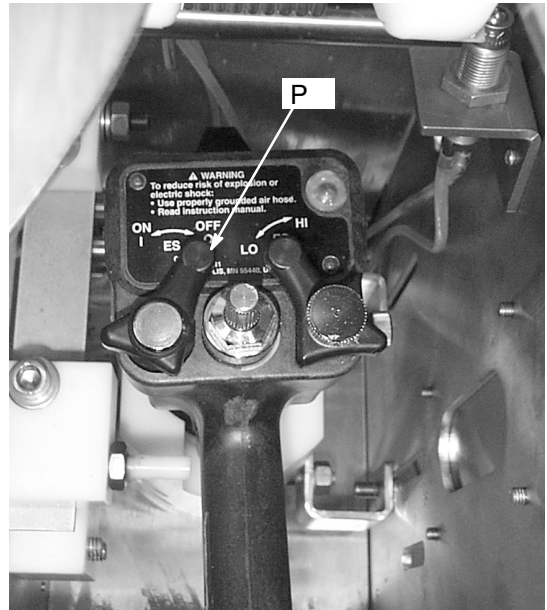

Fig. 19
- ____ 2. If using electrostatics, all operators are properly trained to safely operate an electrostatic spray system. Operators must always turn off the electrostatics (P) before placing the spray gun in the Gun Flush Box. See Fig. 19.